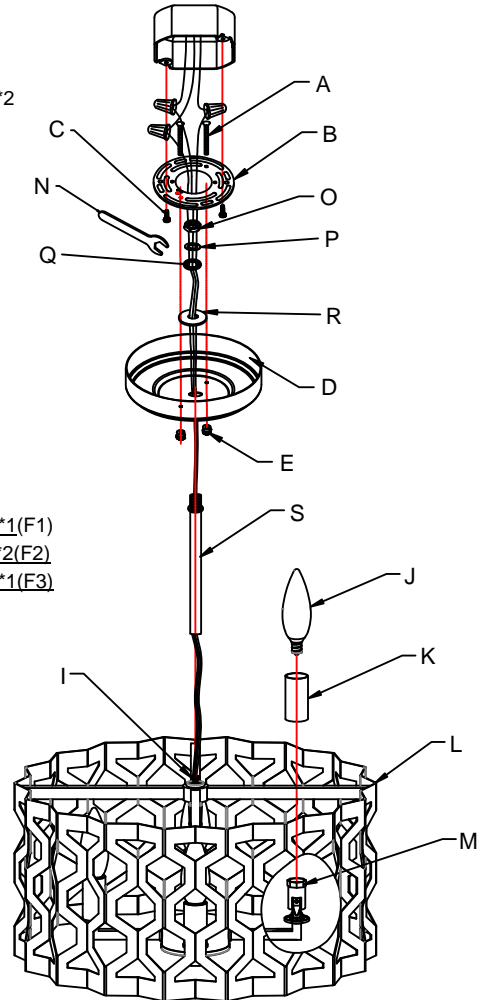

Fig. 5
PREPARATION (Fig.4, Fig. 5)
1. Loosen hex nut (O) by using wrench (N). Carefully remove washer (P) lock washer (Q), metal plate (R) canopy (D) and loop (H2). (Fig 5) Cut down a length of wire if the wire is too long.
2. Secure metal tube (S) onto nipple (I).